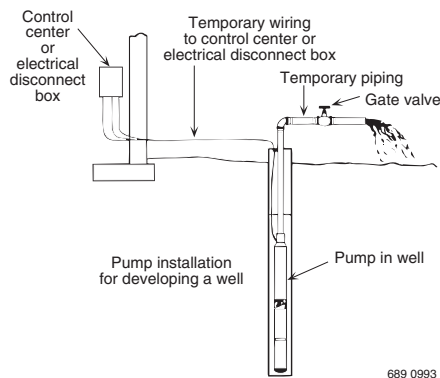

FIGURE 13
1. Connect a pipe elbow, a short length of pipe and a gate valve to pump discharge at well head (see Figure 13).
5. Set gate valve on discharge 1/3 open; start pump (see Figure 13).